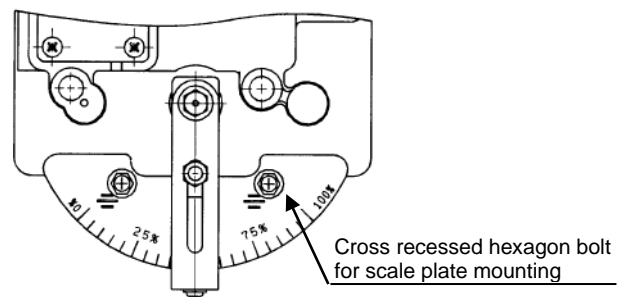

Fig. 49
- (3) Confirm if the indicator indicate 0% and 100% of the gauge at the start and end of the actuator. If it does not, loosen the cross recessed socket head screw for mounting to the dial using a spanner, then slide the scale plate (See Fig. 49, 50).